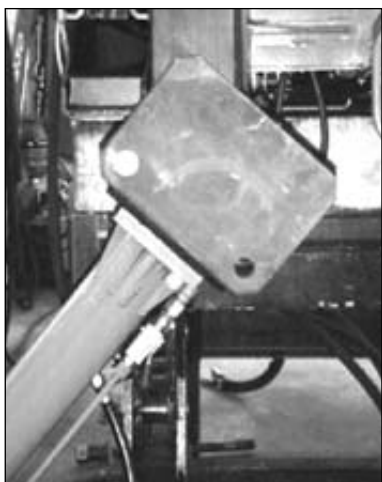

fig. 22
- Supporting the ram, remove the check pin and the locking pin from their positions (fig. 22).